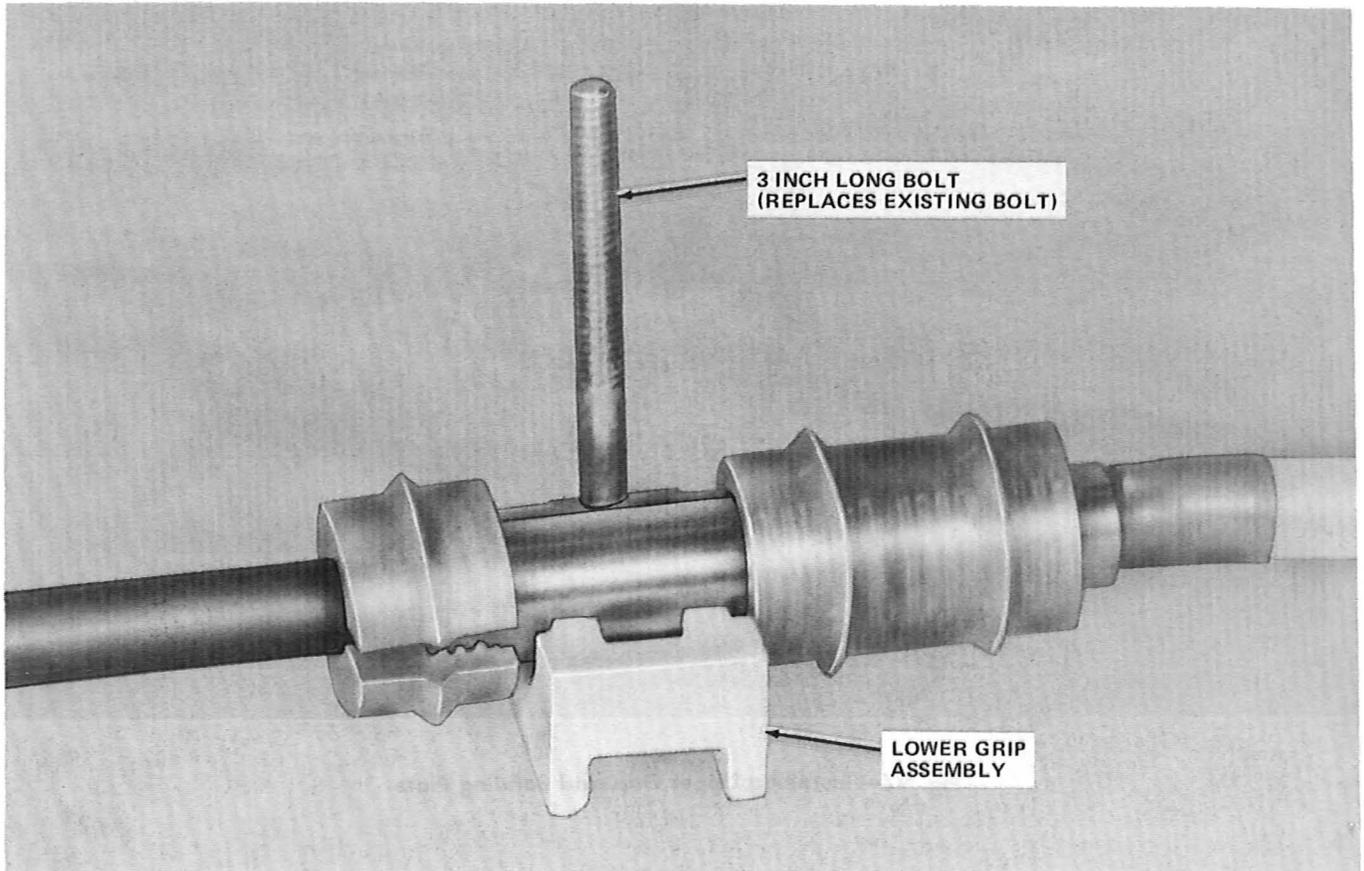

Fig. 96—Placing 3-Inch Long Bolt Into Lower Grip Assembly
12.03 Remove the existing bolt from the lower grip assembly and replace with a 3-inch long bolt, as shown in Fig. 96.